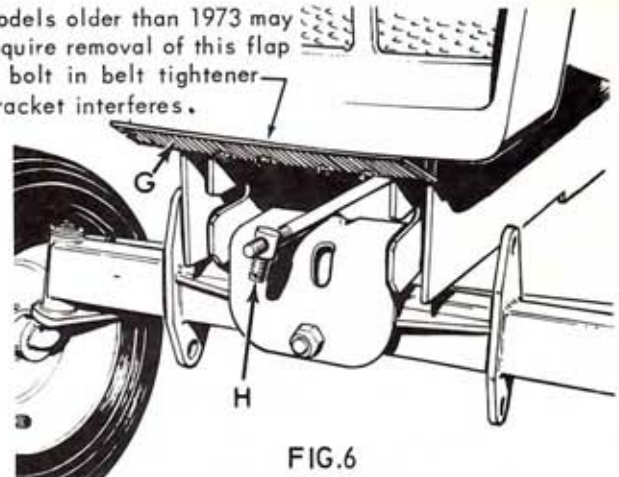

FIG. 6
NOTE: If your tractor is not equipped for a lawn mower attachment, it will be necessary to purchase and install Belt Tightener Link (H, Fig. 6) Part No. 634x171 from your nearest Sears Store.
3. Refer to Fig. 6. Raise front channel cover (G). Install belt tightener link 6499H (instructions for link installation are furnished with Belt Tightener Kit 25349). Place link (H) in center of tractor frame opening. NOTE: If your tractor is not equipped with a lawn mower attachment, it will be necessary to purchase and install Belt Tightener Link 634x171.